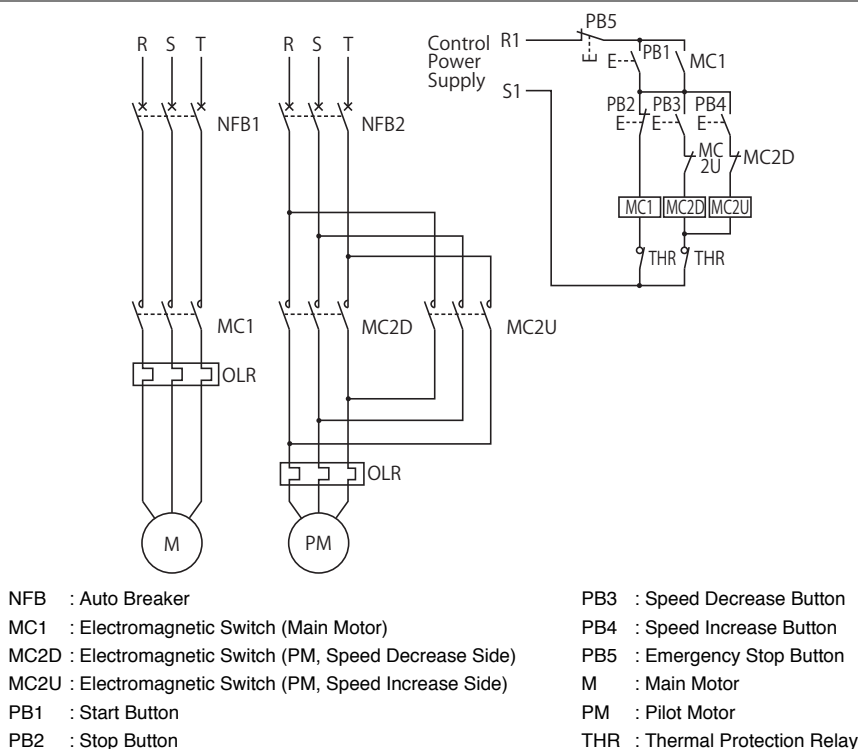

Fig. 22 Connection Diagram
(1) Checking Wiring and Speed Control Operation
- An example of control circuit for pilot motor and push button is shown in Fig. 22 . To check the connection, start the main motor first. Then, confirm that the revolution speed of output shaft increases while depressing the speed increase button (PB4). Also confirm that the revolution speed of output shaft decreases while depressing the speed decrease button (PB3). If the operation is reversed, interchange two phases of power supply to the pilot motor (PM).
(1) Starting
To prevent such erroneous operation, it is recommended that power to pilot motor (PM) be obtained from secondary side of main motor power supply. (Refer to Fig. 22 on page 28)
(2) Speed change
In this case, erroneous operation can be prevented by making connection as shown in Fig.22 on Page 28.